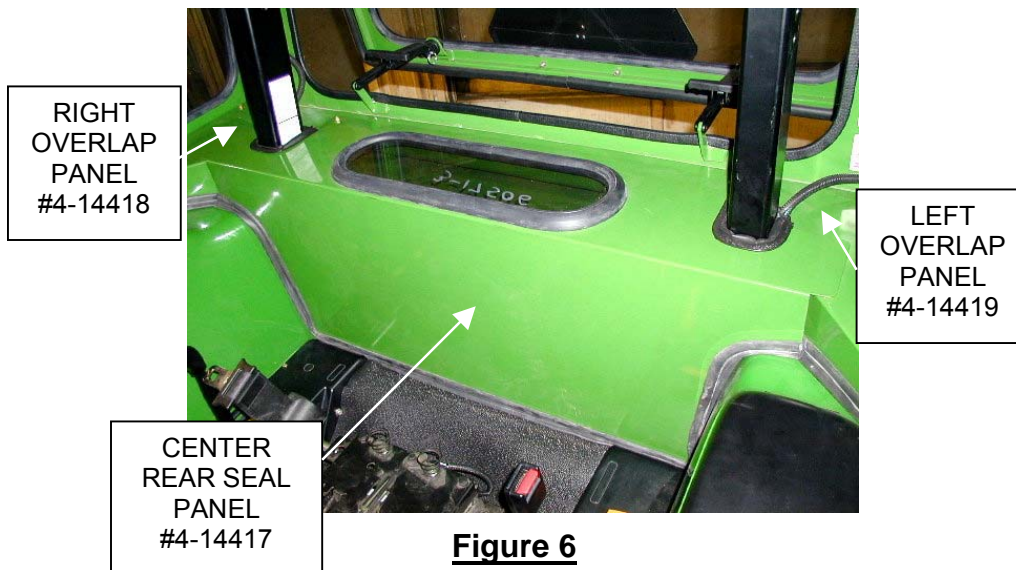

Figure 6
19) Install rear overlaps, left #4-14419, right #4-14418 panel and rear center seal panel #4-14417. Secure using (6) #10-24 x 5/8" bolts. See Figure 6.